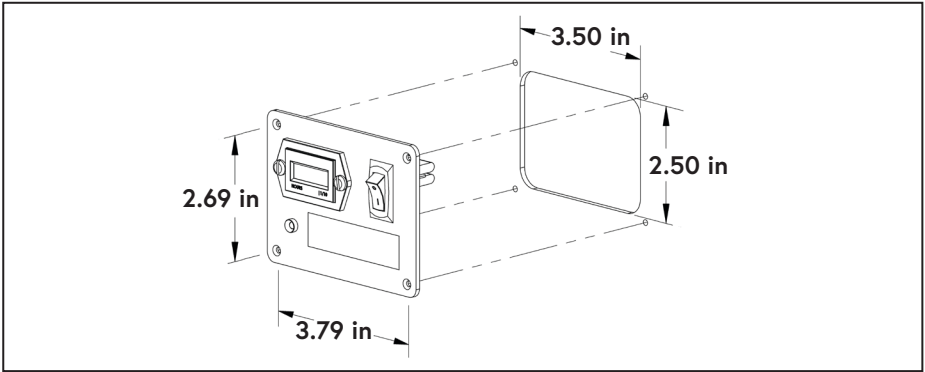

Figure 38 — Interface panel mounting dimensions
- Install the interface panel in a suitable location (Figure 38).